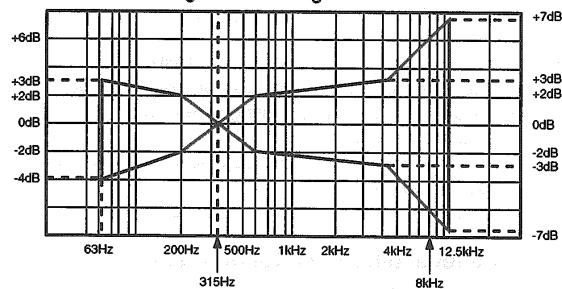

Fig. 8
2. Playback the 315Hz/−20dB and 12.5 kHz to 63 Hz/−20dB sections of the test tape (QZZCFM) and then, using the 315 Hz/−20dB playback output as a reference (0 dB), confirm that the playback frequency response is within the range shown in Fig. 8.